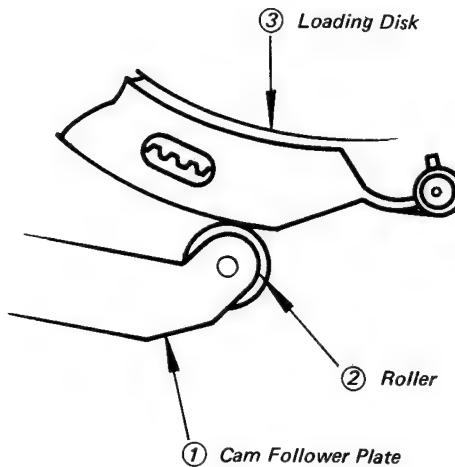

Fig. 5-36 Loading Disk Turning for Removal of Band Brake
### 10-3. Replacing the Supply Reel Table (Figs. 5-36 –39)
2. Turn the loading drive assembly from the loading start position by hand until the roller ② rides fully on the cam way on the loading disk ③ (see Fig. 5-36).